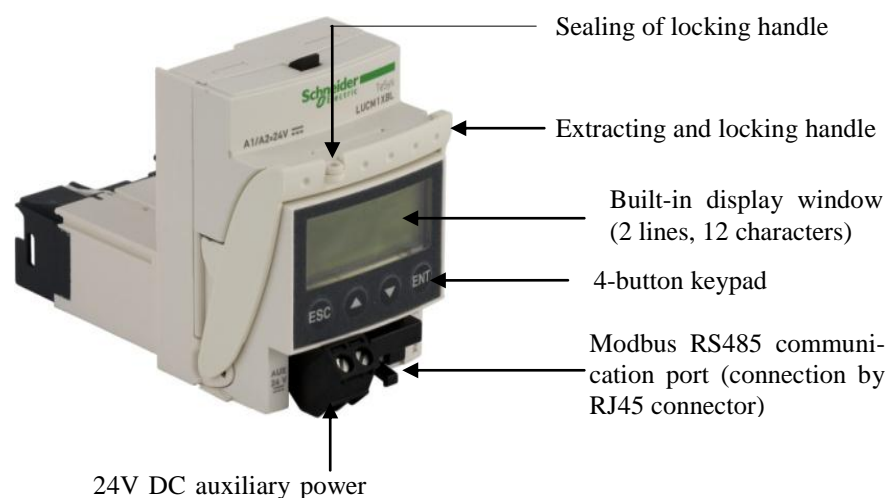

Figure 21 Te Sys LUCM1XBL parts
Telemecanique Te Sys LUCM1XBL is a multi function motor controller used in conjunction with Telemecanique LUB12 together with the blank covers LU9C1 and LU9C2 or replacement modules for the blank covers. It is a plug-in module for the LUB12 starter. The Te Sys LUCM1XBL is digital motor controller with two (2) line digital display to show the various circuit parameters being controlled and monitored. It also has keypads for the setting of the various configurable parameters. Modules for functional enhancement of the control unit are given in Table 2 above. Figure 21 shows parts of the LUCM1XBL control unit.